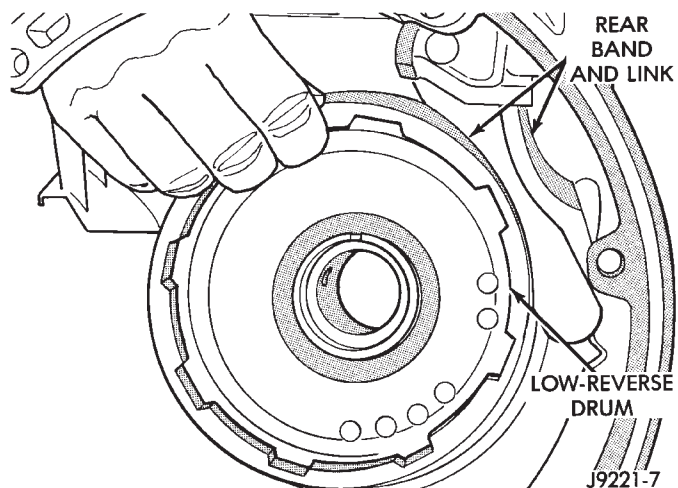

Fig. 30 Removing/Installing Low-Reverse Drum—46RH
(31) Slide low-reverse drum off piston retainer hub and out of rear band (Fig. 30).